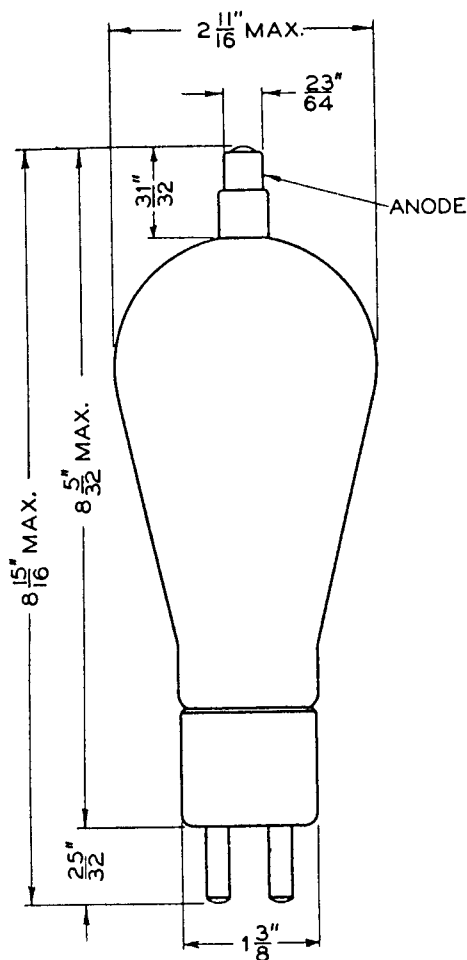

FIG. 1
**Dimensions—**The dimensions and outline diagrams are given in Figures 1 and 2.
**Base—**Medium two-pin thrust type, with a small metal cap anode terminal located at the top of the bulb. Base dimensions and the arrangement of electrode connections to the base terminals are shown in Figures 1 and 2.